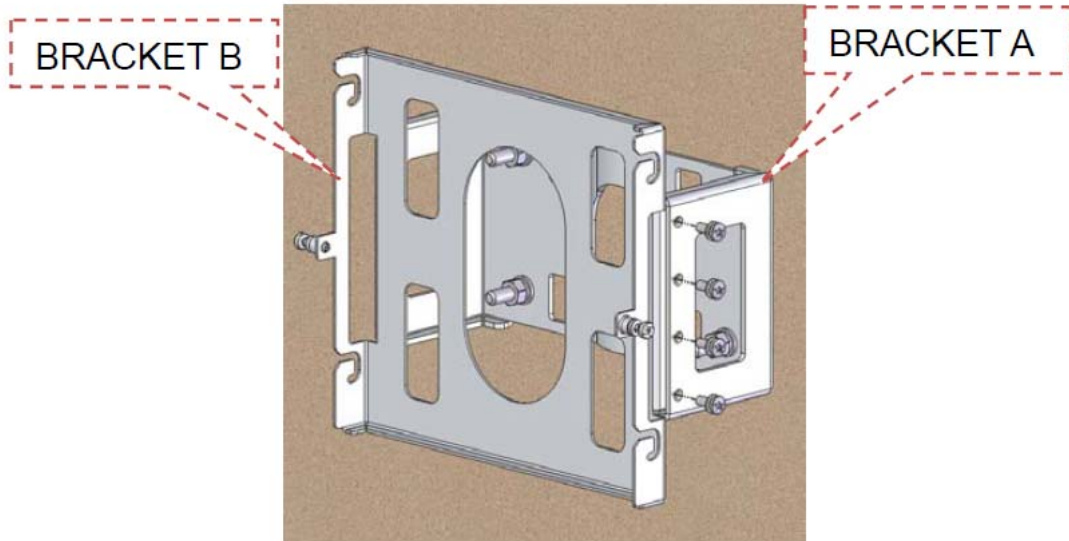

Figure 29
Step 5. Use M4 screw fit bracket A and bracket B together, as shown in Figure 29